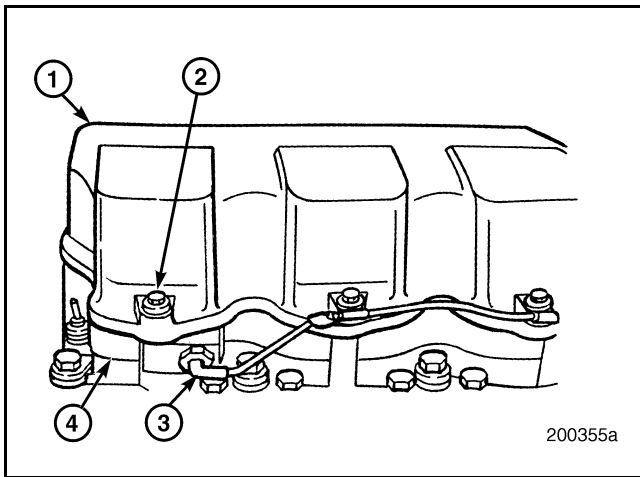

Figure 293 — Valve Cover Installation
5. Position the valve covers (1) on the cylinder heads or on the spacers (4), if so equipped, as shown in Figure 293.
6. Lubricate the threads of the capscrews (2) and secure the valve covers with the lubricated capscrews. Tighten the capscrews to the specified torque, 16 lb-ft (22 N•m).